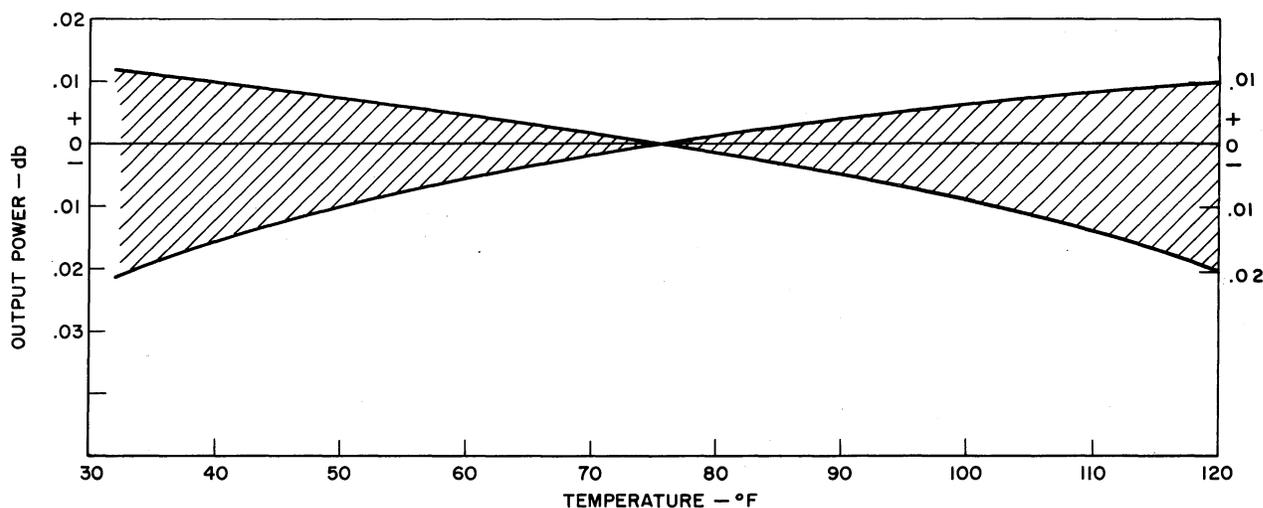

Fig. 3 - Output Power Versus Temperature
3.03 Typical curves showing the effects of temperature and battery voltage changes on the generator are shown in Fig. 3 and 4. The output power, shown within the shaded area of these curves, is determined by the manufacturing tolerances of circuit components and the setting of the MW ADJ potentiometer. All the extreme variations in level shown will not usually be found with any one generator. The 600- and 900-ohm outputs are set at time of manufacture to 0 dbm at approximately 75 F, with a supply voltage of 42 volts, using special calibrating equipment.